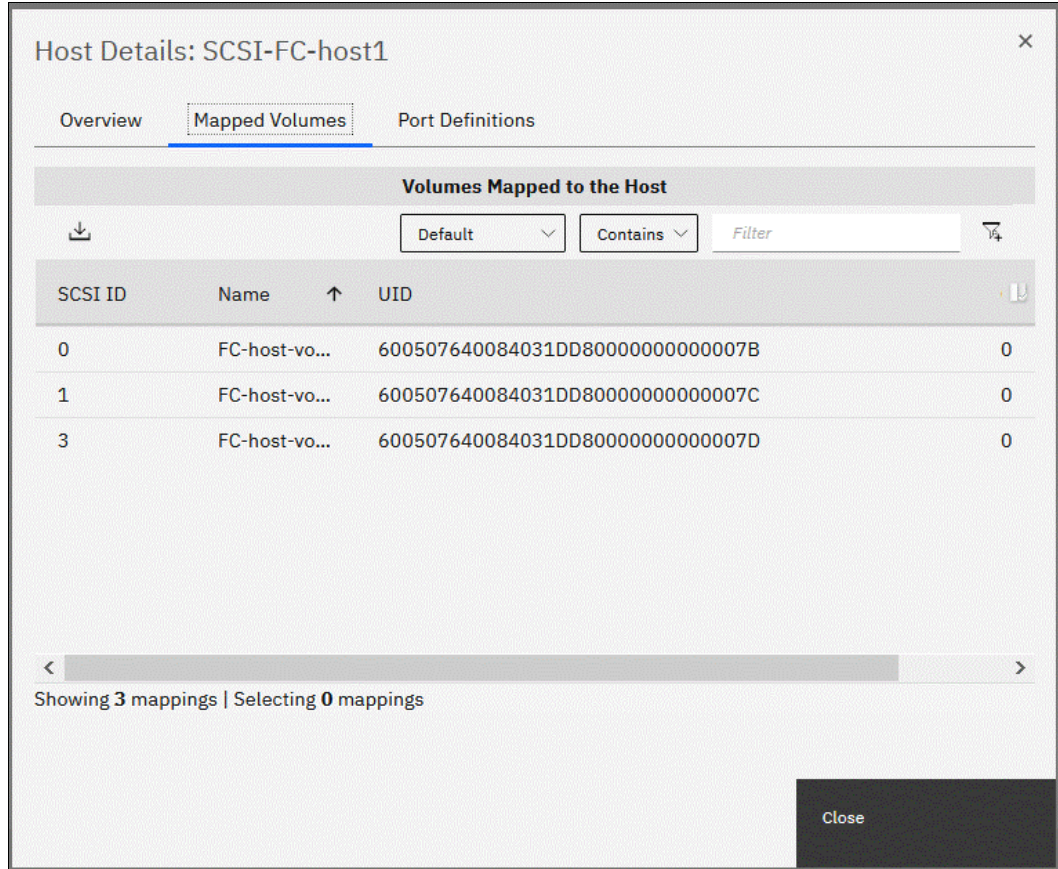

Figure 7-78 Host Details: Mapped volumes
3. After the host object is defined, it is visible in the hosts view, and volumes (VDisks) can be mapped to it, as described in Chapter 2, “Planning” on page 71. Details about the host can be found by double-clicking its entry in the Hosts view. After the volumes are mapped to the host, you can check them by going to the Host Details window in the Mapped Volumes tab (see Figure 7-78).